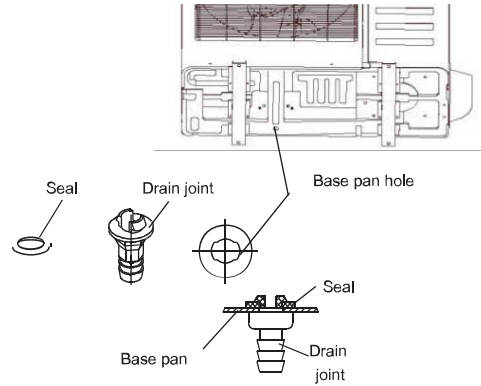

Fig. 13 —Drain Joint
1. Completely tighten flare nuts A, B, C, D, connect the manifold gauge charge hose to a charge port of the low side service valve (see Fig. 13).